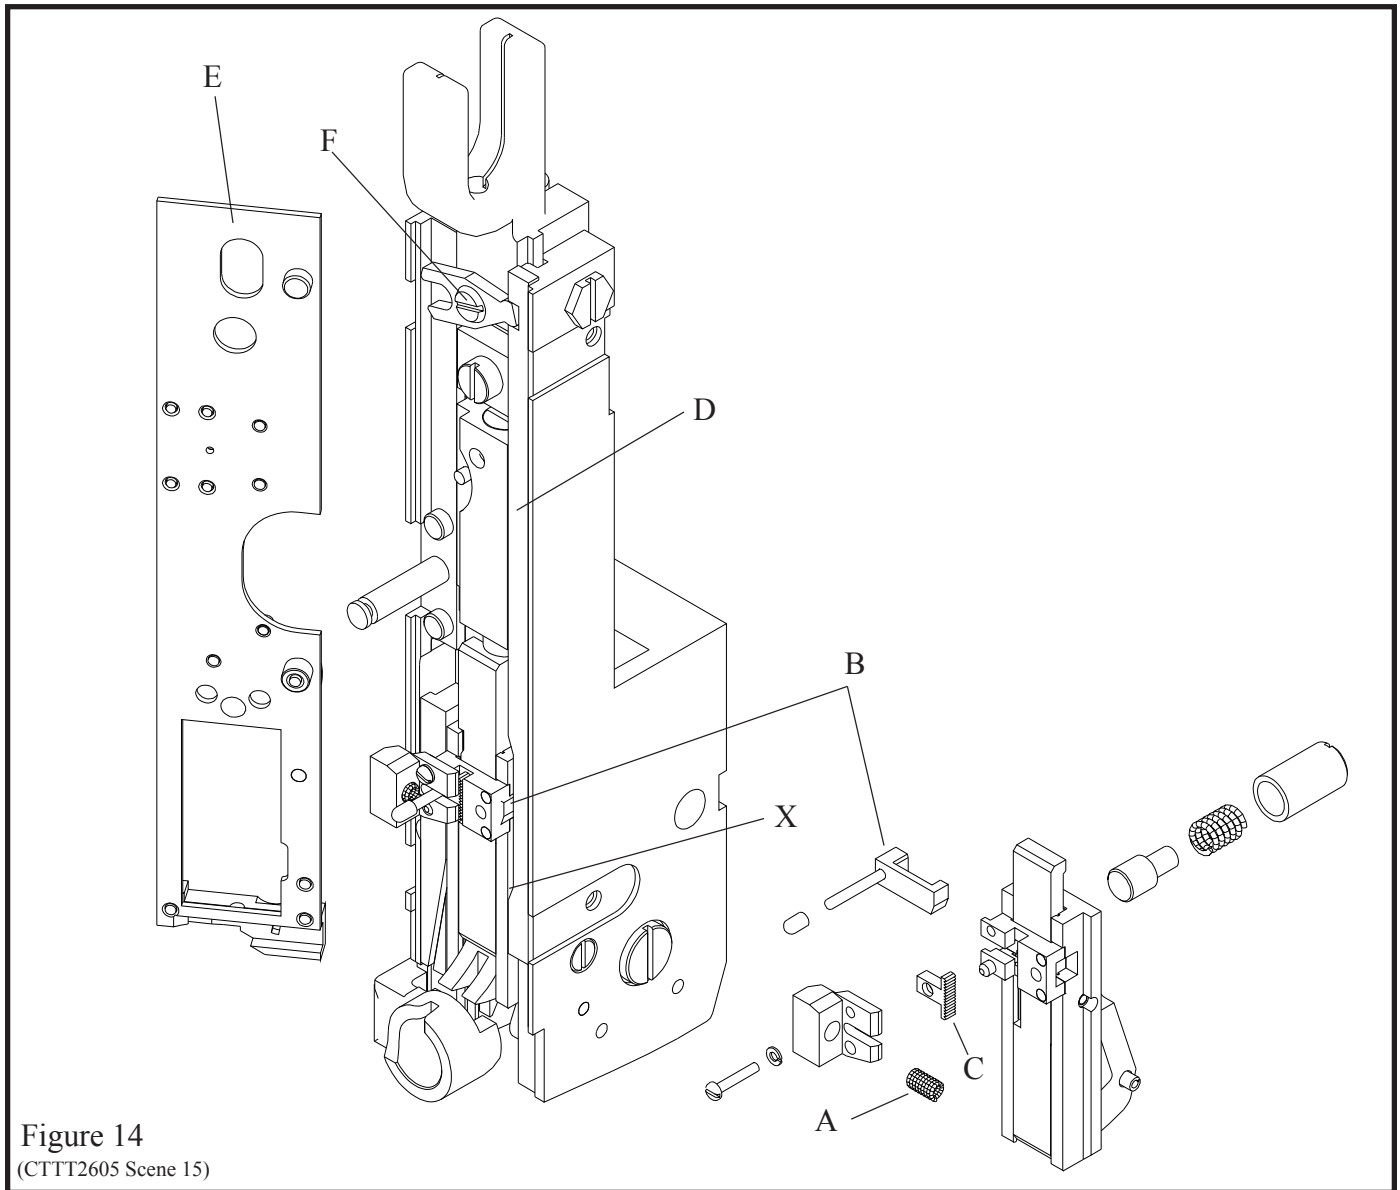

Figure 14
H. Grip, Grip Release Slide and Face Plate: (Figure 14)